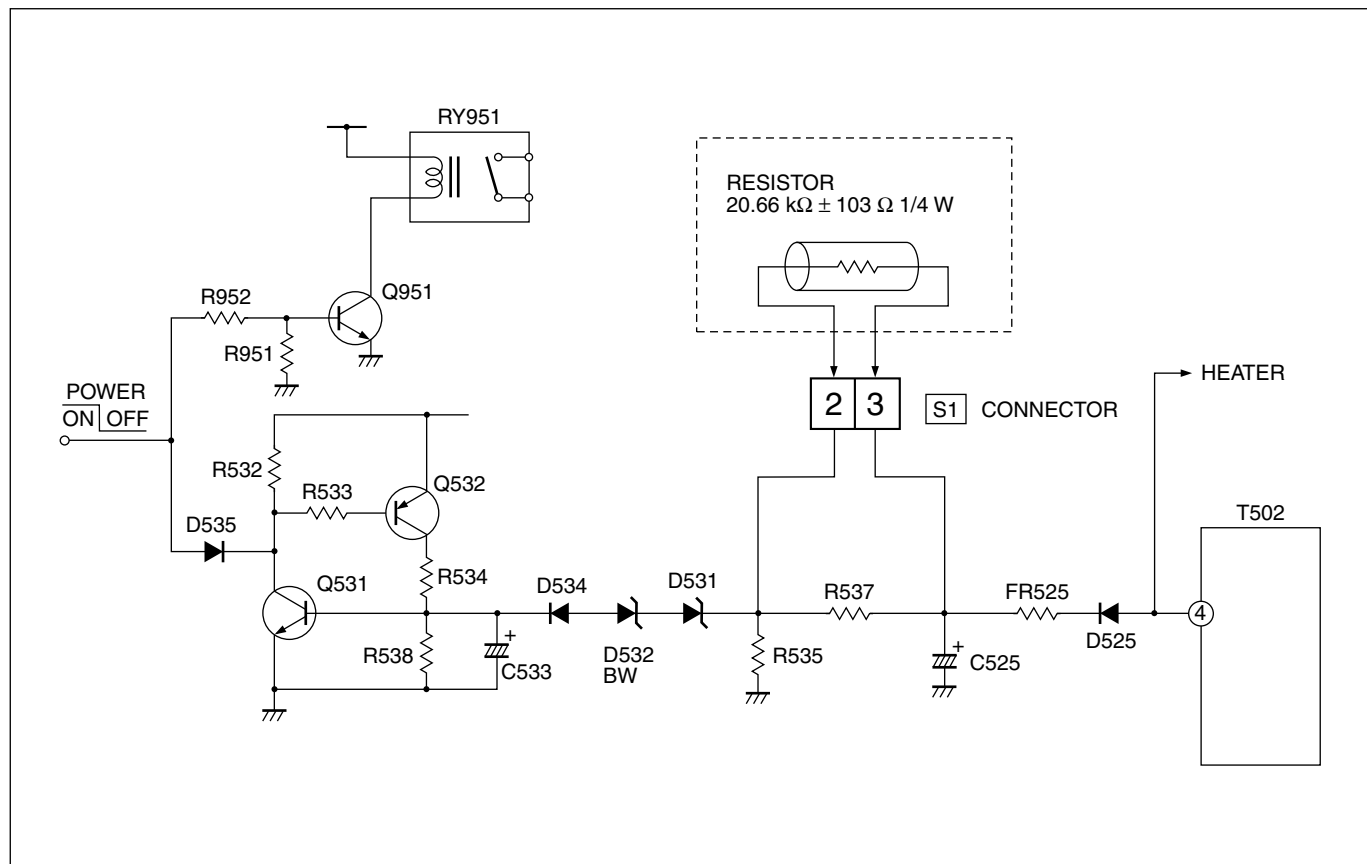

Fig. 1
After repairing the high voltage hold down circuit shown in Fig. 1.
- (1) Turn the POWER SW ON.
- (2) As shown in Fig. 1, set the resistor (between [S1] connector [2] & [3]).
- (3) Make sure that the screen picture disappears.
- (4) Temporarily unplug the power cord.
- (5) Remove the resistor (between [S1] connector [2] & [3]).
- (6) Again plug the power cord, make sure that the normal picture is displayed on the screen.